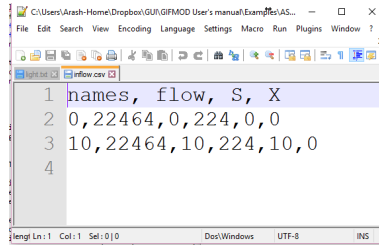

Figure 4.10: Inflow input file for the activated sludge example
7. **Adding constituents:** Two constituents including substrate (S) and biomass (X) will be considered in the model
8. **Inflow rate and characteristics:** The inflow characteristics input file looks like figure 4.10. Create this file or upload it from the example folder and save it in a folder on your hard drive as inflow.csv or any other names you desire.